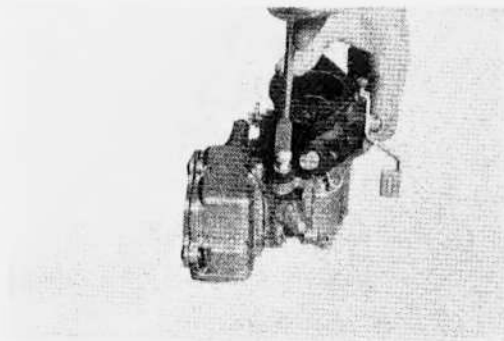

Figure 135
- (6) Then insert pump intake strainer screen and screw on nut plug over gasket.
(7) Screw on nut plug at lower part of pump cylinder over gasket.
(8) Assemble on slow jet.
(9) Assemble on carburetor flange to carburetor main body (Fig. 135).